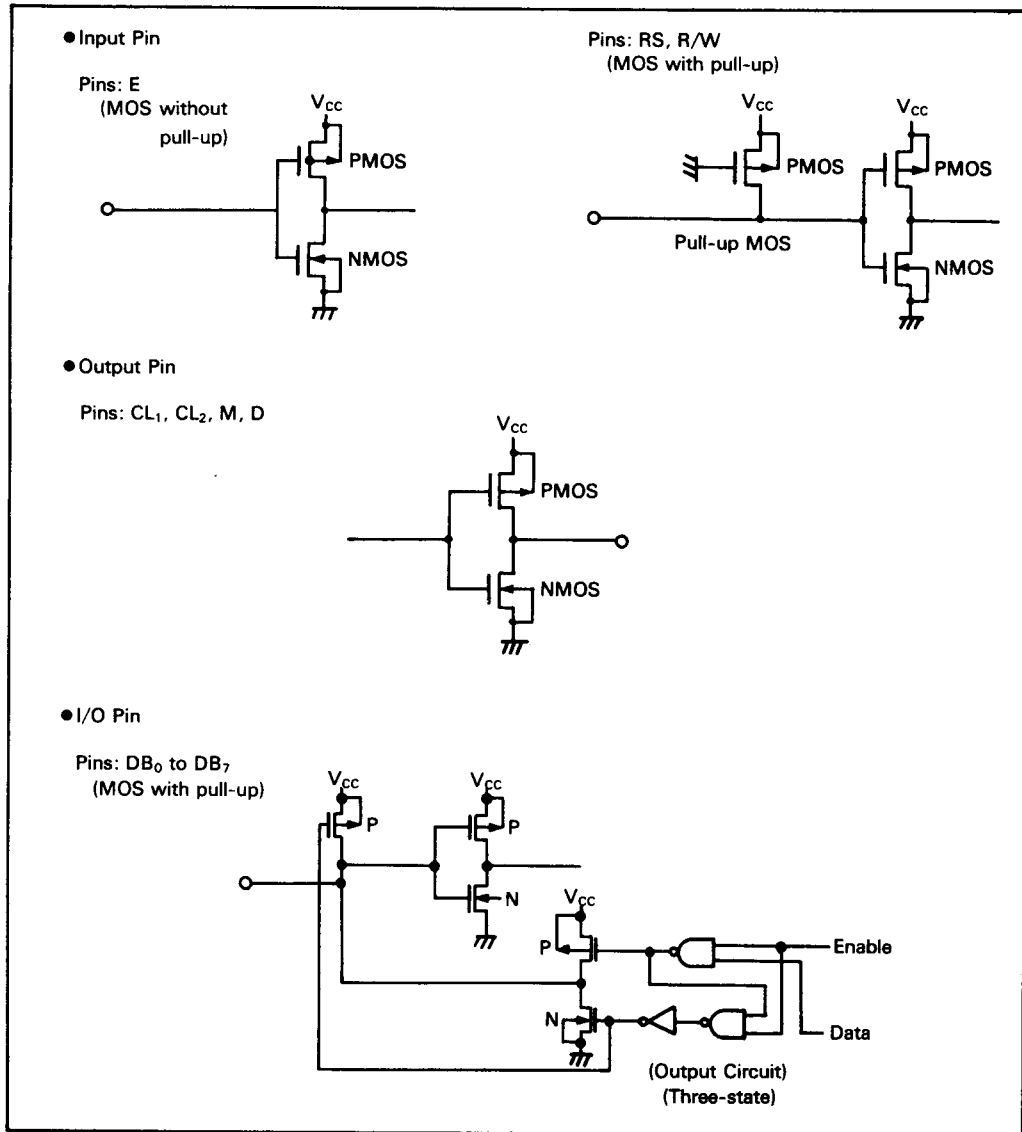

Figure 43 Pin Configuration
- Figure 43 shows the I/O pin configurations except for liquid crystal display output.